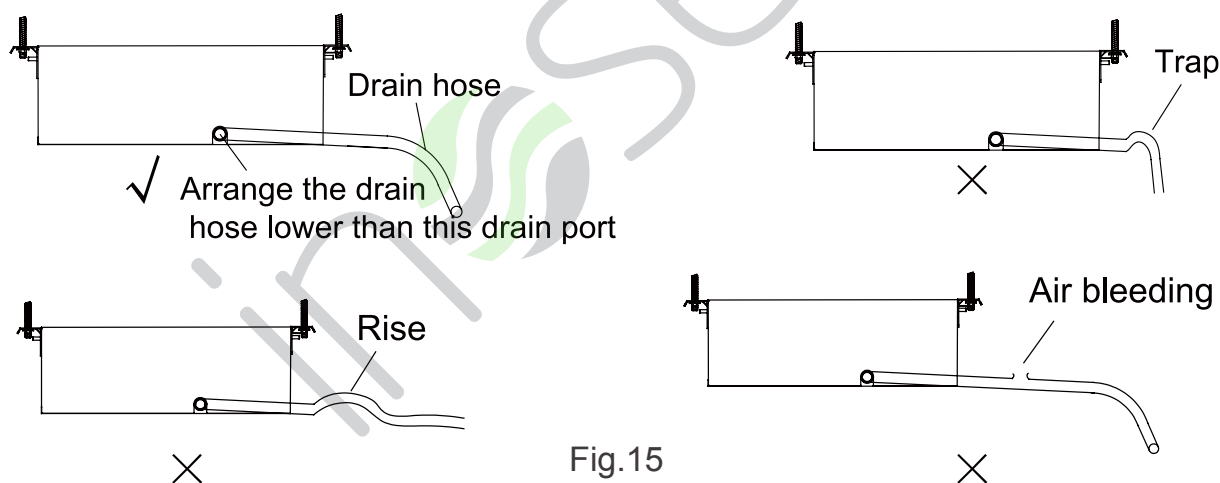

Fig.15
1. Install the drain hose with downward gradient (1/50 to 1/100) and no risers or traps are used for the hose.(Fig.15)
2. Be sure there is no crack or leak on the drain hose to avoid the formation of air pocket. (Fig.15)